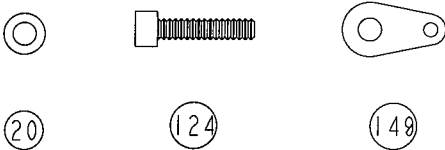

Fig 66.
Step 10. Slightly bend the throttle return spring eyelet (149) as shown in figure 66. Place a studded ball washer (20) over the four 4-40 x 1/2" cap head screws (124). Insert a 4-40 x 1/2" cap head screw (124) through the three holes in the engine as illustrated. Place the bent throttle return spring eyelet (149) over a fourth 4-40 x 1/2" cap head screw (124) and insert it through the fourth hole in the engine as shown.
Step 11. Attach the engine to the engine mounts (151) by threading the four screws (124) into the four holes shown. Do not fully tighten the screws yet.